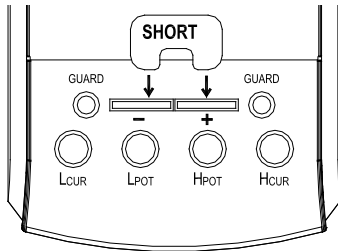

Figure 6
- When using square terminals, insert the short socket to the square terminals and make $L_{CUR}/L_{POT}/H_{POT}/H_{CUR}$ terminals hang in the air (shown in figure 6);